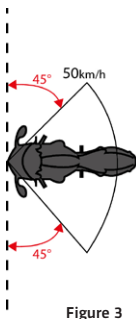

Figure 3
The Tech-Air® Off-Road System is expected to inflate and protect within 200 milliseconds from the beginning of the crash, in Crashes Where a Motorcycle strikes a Vehicle or Obstacle (Figure 3) in these conditions:
Impact Angle (Fig 3)	From 45° to 135°
IMPORTANT! Figure 3 outlines the Envelope of Protection where the Tech-Air® Off-Road System is expected to inflate and protect within 200 milliseconds from the beginning of the crash. At speeds above 50km/h (31 mph) or outside the declared angle, the System is expected to deploy as well, however, outside the Envelope of Protection the System may not be fully inflated before there is contact between the obstacle and the user.
- The Tech-Air® Off-Road System is expected to inflate and protect within 200 milliseconds from the beginning of the crash, in Crashes Where a Motorcycle strikes a Vehicle or Obstacle (Figure 3) and the User is riding in seated position;
- The Tech-Air® Off-Road System is expected to inflate and protect within 300 milliseconds from the beginning of the crash, in Crashes Where a Motorcycle strikes a Vehicle or Obstacle (Figure 3) and the User is riding in standing position;